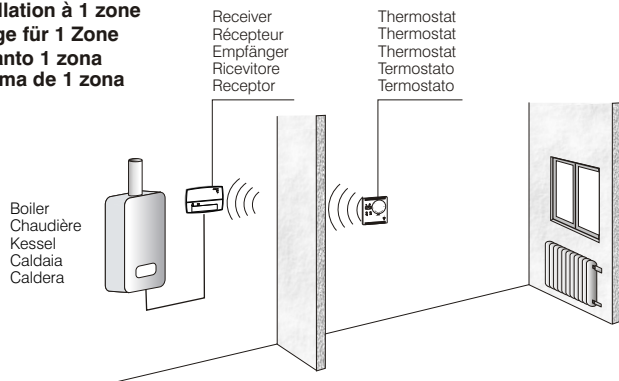

Fig. 3
A) 1-zone system (fig. 3) - composed by: